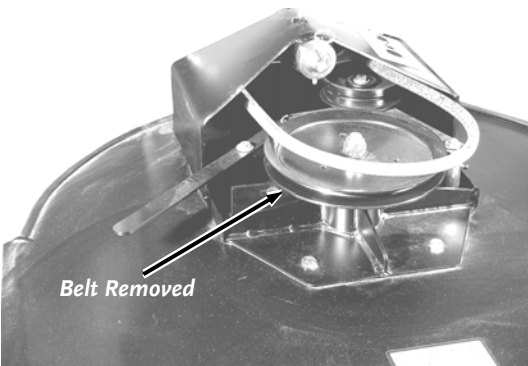

Figure 33
3. Remove the Belt from the Pulley (**Figure 33**).